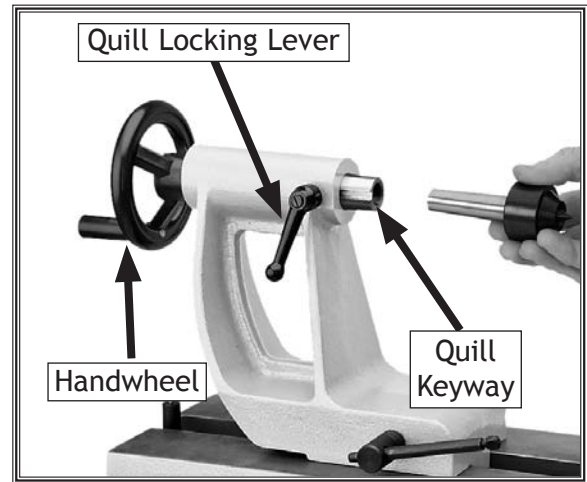

Figure 20. Installing the tailstock center.
2. Loosen the quill locking lever, then rotate the quill handwheel clockwise until the quill extends out from the tailstock about 1" (see **Figure 20**).